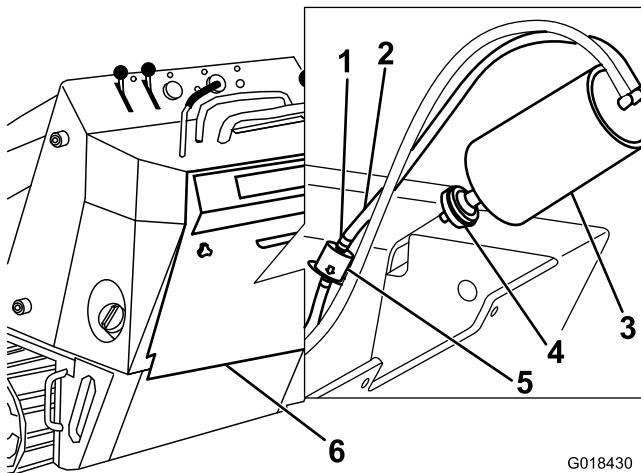

Figure 33
4. Remove and discard the carbon-canister air filter (Figure 33).
5. Install a new filter onto the carbon canister (Figure 33).
4. Move the spring-type hose clamps on both sides of the carbon-canister purge-line filter away from the filter (Figure 33).
5. Remove and discard the purge-line filter (Figure 33).
6. Install a new filter into the hose with the arrow on the filter pointing away from the carbon canister and secure it with the hose clamps (Figure 33).